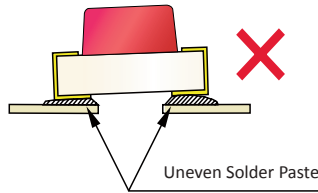

Fig. 6
7. Refer to the appropriate product datasheet for details on specific soldering pay layout. To ensure proper bonding and setting of the LED, solder paste must be evenly applied to each soldering pad. Refer to below diagram (Fig. 6) for example of improper solder application.